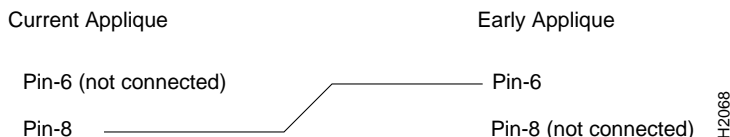

Figure A-9 Cable Change Required When Using Older RS-232 Applique
Very early MCI cards were shipped with an RS-232 DTE applique assembly designed by a third-party vendor. These older appliques, marked *SCO-232*, do not have any LEDs. If you are using this RS-232 DTE applique assembly on the other side of a link, the applique has Carrier Detect (CD) on pin 6, which is contrary to current RS-232 specifications. When using this applique with an RS-232 DCE applique assembly, you must use a cable adapter or breakout box to change the cable as shown in Figure A-9. All other signals on the 25-pin cable should be straight through.